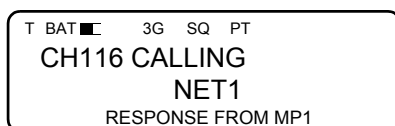

Figure 3-24. Net Call Screen
- e. If the call type is **MANUAL**, the AN/PRC-150(C) prompts the user for the channel number to place the call on.
- f. KDU displays call status. See Figure 3-24. When a response to the call is received from another net member, the text RESPONSE FROM and the name of the responding station will be displayed on the bottom line of the KDU.